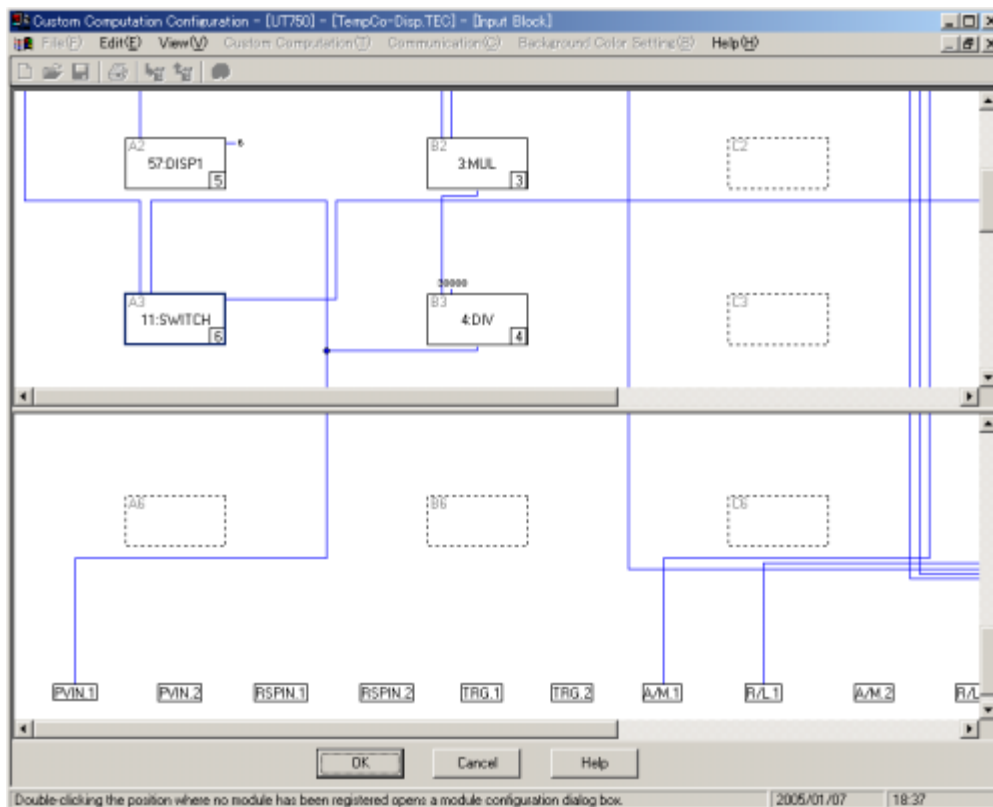

Figure 12.3.8 Output Signal Fed by Input Block
- (1) In the [Input Block] dialog box (Figure 12.3.8), click the <PVIN.1> output signal.